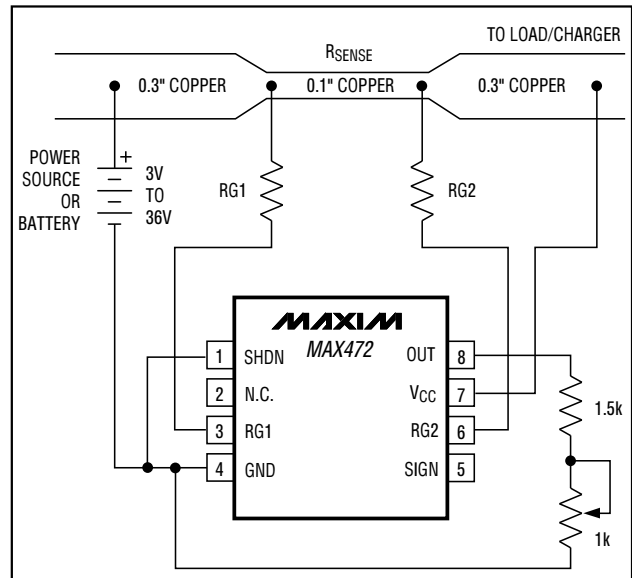

Figure 6. MAX472 Connections Showing Use of PC Board Trace
- Cost:** If the cost of R_{SENSE} becomes an issue, you may want to use an alternative solution, as shown in Figure 6. This solution uses the PC board traces to create a sense resistor. Because of the inaccuracies of the copper "resistor," you will need to adjust the full-scale current value with a potentiometer. Also, the resistance temperature coefficient of copper is fairly high (approximately 0.4%/°C), so systems that experience a wide temperature variance should take this into account.
In Figure 6, assume the load current to be measured is 10A and that you have determined a 0.3 inch wide, 2 ounce copper to be appropriate. The resistivity of 0.1 inch wide, 2 ounce copper is 30mΩ/ft (see Note 4). For 10A you may want $R_{SENSE} = 5m\Omega$ for a 50mV drop at full scale. This resistor will require about 2 inches of 0.1 inch wide copper trace.